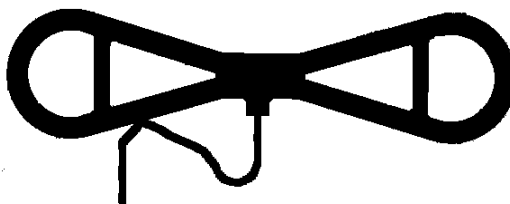

Figure 1, Antenna Tie Wrap Modification
33. Referring to Figure 1, measure back 4" from the connector that attaches to the Figure 8 Loop. Place that point on the cable next to the Figure 8 Loop and place a Cable Tie (5878-0016)ie on it. This will stop the cable from being pulled out of the Antenna Cable Connector.